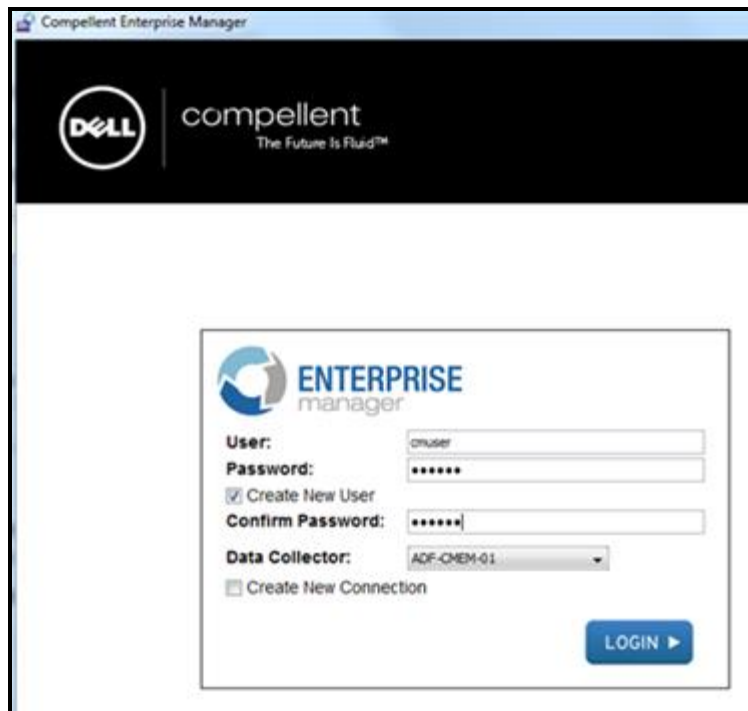

Figure 4: Adding a new user through the Compellent Enterprise Manager Client Application
6. If you have used the open security policy, then you can add the user through the Enterprise Manager Client Application. If you have used the Advanced security policy, then you can add the user from the Data Collector Manager Interface. Since we have used the open security policy, the user is added through the Enterprise Manager Client Application (see Figure 4).
7. Select the **Create New User** check box (see Figure 4) and then specify the **User** which is the same as the local user that you have created on the Windows server.